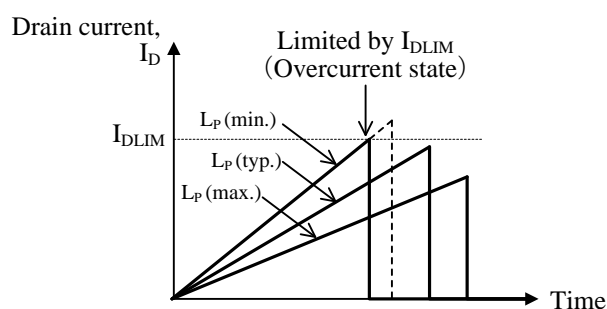

Figure 13-2 Relation between  $L_P$  and drain current  $I_D$
- The peak value of drain current  $I_D$  in normal operation is determined by  $L_P$  value. Since the slope of  $I_D$  is expressed as  $V_{DS}/L_P$ , the smaller the  $L_P$  value, the steeper the slope of  $I_D$  becomes. Thus the peak value of drain current becomes high as shown in Figure 13-2. The IC limits the peak current by drain current limit  $I_{DLIM}$  (Overcurrent state). If  $L_P$  value becomes small by variation, there is the case that the system is in overcurrent state. Then the designed output power cannot be achieved. Thus the  $L_P$  value should be determined after the confirmation in actual operation using minimum  $L_P$  value within the variation, where the peak current value should be less than  $I_{DLIM}(\text{MIN})$  in minimum input voltage of power supply.